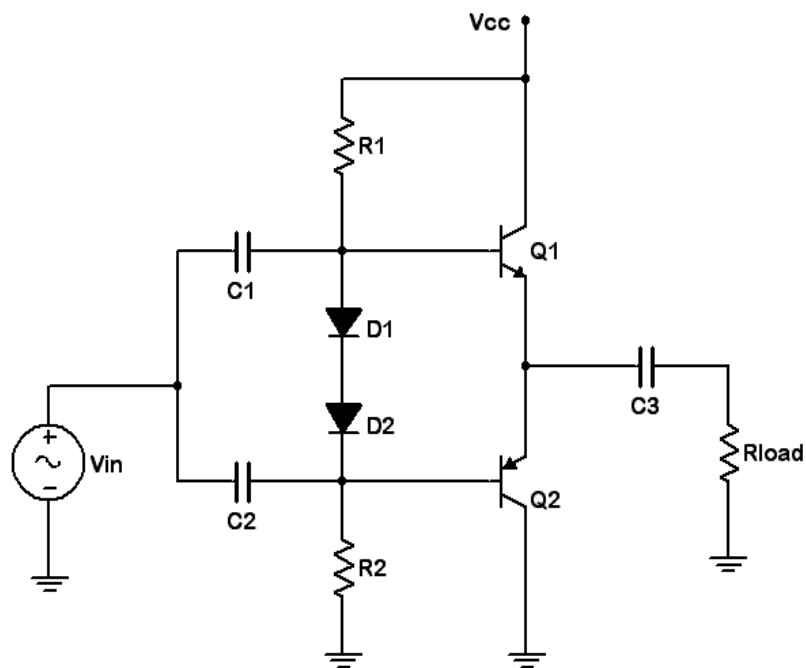
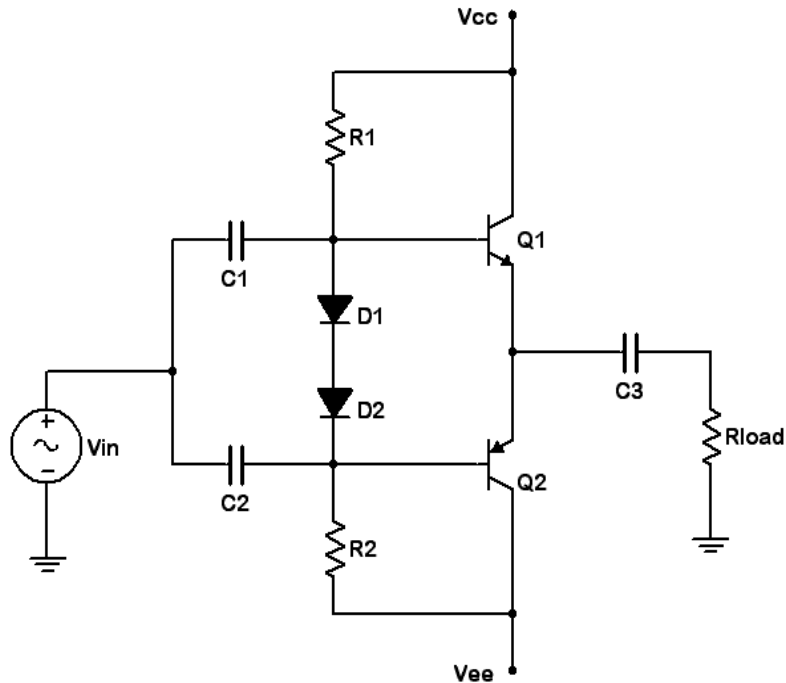

Figure 2
Figure 3
5. Replace R3 and R4 with switching diodes, as shown in Figure 2. Repeat steps 2 through 4 using this circuit and Table 2. Overall, the superior matching of the diodes to the transistors should result in decreased notch distortion.
6. Add the negative power supply so that the circuit now appears as Figure 3. Set the power supplies to ± 6 volts DC. This should produce similar bias and amplification results to the single 12 volt supply circuit of Figure 2. Although the output coupling capacitor is no longer needed (one advantage of the dual supply topology), leave it in for safety sake.